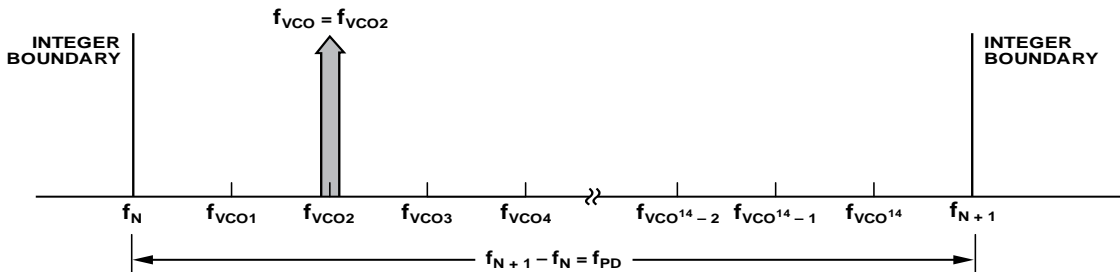

Figure 46. Exact Frequency Tuning
$f_{VCOk}$  is the channel step frequency where  $0 < k < 2^{14}-1$ , as shown in Figure 46.
(the denominator or the modulus of the  $\Delta$ - $\Sigma$  modulator) so that the  $\Delta$ - $\Sigma$  modulator phase accumulator repeats at an exact period related to the interval frequency ( $f_{VCOk} - f_{VCO(k-1)}$ ) in Figure 46. Consequently, the shortened accumulator results in more frequent repeating patterns and as a result often leads to spurious emissions at multiples of the repeating pattern period, or at harmonic frequencies of  $f_{VCOk} - f_{VCO(k-1)}$ . For example, in some applications, these intervals might represent the spacing between radio channels, with the spurious occurring at multiples of the channel spacing.
When multiple, equally spaced, exact frequency channels are needed that fall within the same interval (that is,  $f_N \leq f_{VCOk} < f_{N+1}$ ) where  $f_{VCOk}$  is shown in Figure 46 and  $1 \leq k \leq 2^{14}$ , it is possible to maintain the same integer-N (Register 0x03) and exact frequency register (Register 0x0C) settings and only update the fractional register (Register 0x04) setting. The exact frequency channel mode is possible when Equation 16 is satisfied for at least two equally spaced adjacent frequency channels, that is, the channel step size.
To configure the HMC832 for exact frequency channel mode, initially and only at the beginning, the integer (Register 0x03) and exact frequency (Register 0x0C) registers need to be programmed for the smallest  $f_{VCO}$  frequency ( $f_{VCO1}$  in Figure 46), as follows:
1. Calculate and program the integer register setting Register 0x03 =  $N_{INT} = \text{floor}(f_{VCO1}/f_{PD})$ , where  $f_{VCO1}$  is shown in Figure 46 and corresponds to the minimum channel VCO frequency. Then, the lower integer boundary frequency is given by  $f_N = N_{INT} \times f_{PD}$ .
where  $f_N = \text{floor}(f_{VCO1}/f_{PD})$ , and  $f_{VCO1}$ , as shown in Figure 46, represents the smallest channel VCO frequency that is greater than  $f_N$ .
4. To change from Channel 1 ( $f_{VCO1} = 2800.2$  MHz) to Channel 2 ( $f_{VCO2} = 2800.3$  MHz), only Register 0x04 needs to be programmed, as long as all of the desired exact frequencies,  $f_{VCOk}$  (Figure 46), fall between the same integer-N boundaries ( $f_N < f_{VCOk} < f_{N+1}$ ). In that case,